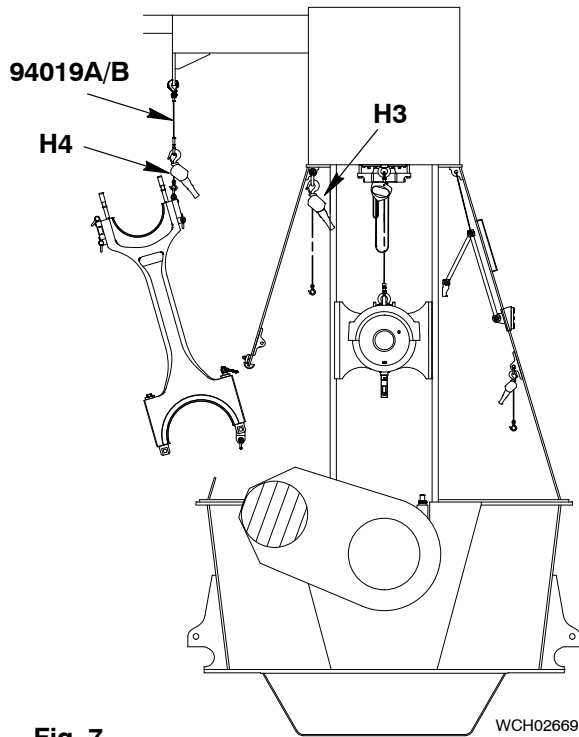

Fig. 7
- 25) Remove the manual ratchet (H3, Fig. 7) from the shackle (94018A) on the connecting element (94334A).